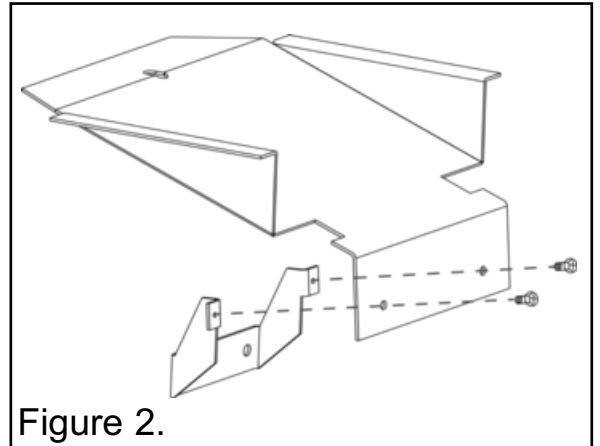

Figure 2.
- These should be fitted to the stove following figures 2, 2A, 2B and 3. Do not bolt in place until fitting the deflector.
Fit the Spacer bracket as shown in figure 2 tightly to the Draught Deflector using the two screws supplied.